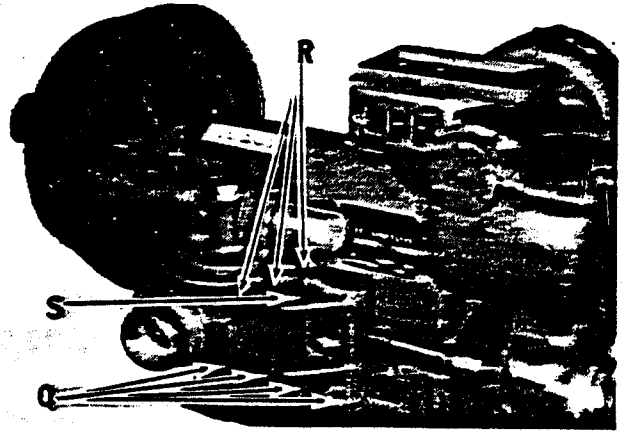

Figure 10
1. Loosen the knurled cross feed lock knob, S Fig. 10.
2. Four allen head gib screws are located underneath the carriage, Q Fig. 10. Loosen each screw one-half turn.
1. Loosen each of the three (3) gib screws one-half turn, R Fig. 10.